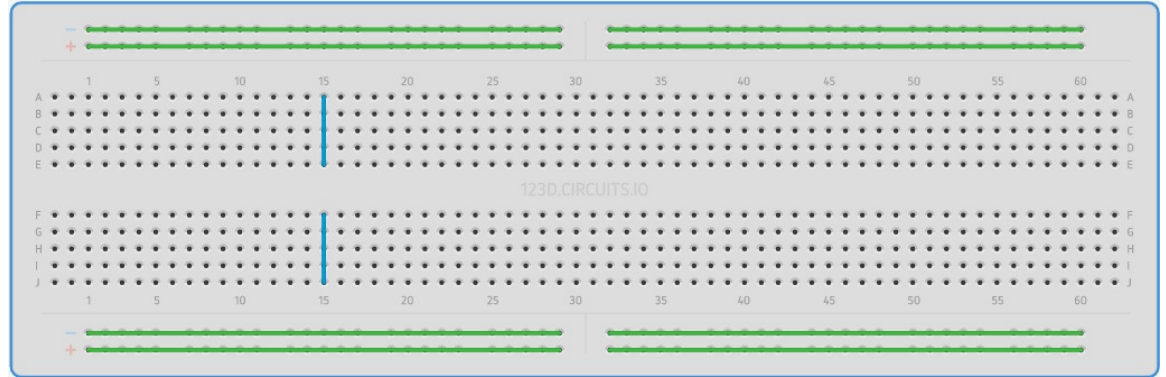

Figure 1.1.1.1: Breadboard
1.1.1. Connect the 5V pin of the Vaman-ESP to an extreme pin of the Breadboard shown in Fig. 1.1.1.1. Let this pin be  $V_{cc}$ .